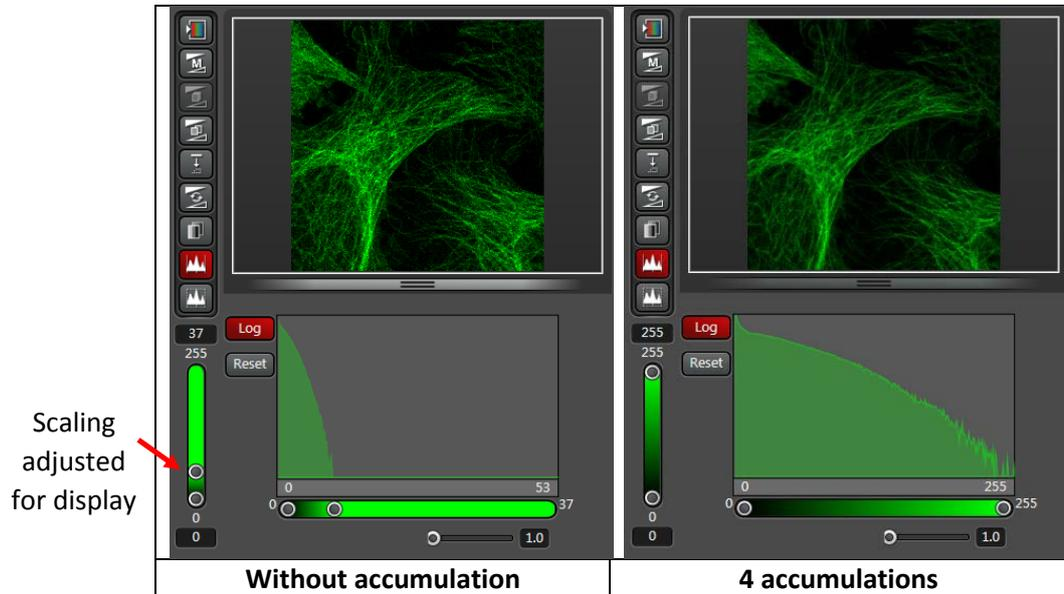

Fig. 3: optimization of the image acquisition by filling the dynamic range
- 3- Increase the laser % (keep the laser % low enough to avoid the photobleaching) to fill as much as possible the 8 bit range (bring the max value close to the 255 value on the brightest part of your sample, for example 200-220 is good enough, 240 would be almost perfect) (Fig3) If the fluorescence is weak, accumulate to fill the 8bit range and to obtain a sufficient signal to noise ratio
Perform accumulation to obtain a sufficient signal to noise ratio or to fill the 8bit range (Fig. 3).
Possibility 2: put the gain at the minimal 10% value. This situation is closest to the counting mode with additional correction for the nonlinearity and pixel dwell time/format/speed. Perform accumulations to fill as much as possible the 8 bit range (bring the max value close to the 255 value on the brightest part of your sample, for example 200-220 is good enough, 240 would be almost perfect) in the same way than the counting mode (Fig3)